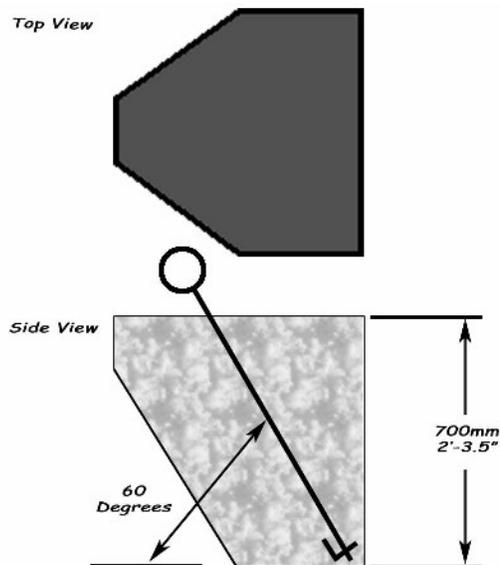

Figure 3
7. Dig an anchor pit as shown in Fig 3. These should be 4 meters (13 feet) from the center base arranged so that they are 90 degrees apart.
8. Arrange the anchor in the pit as shown in Fig 3. It should be 60 degrees off of horizontal, as shown in figure 3.